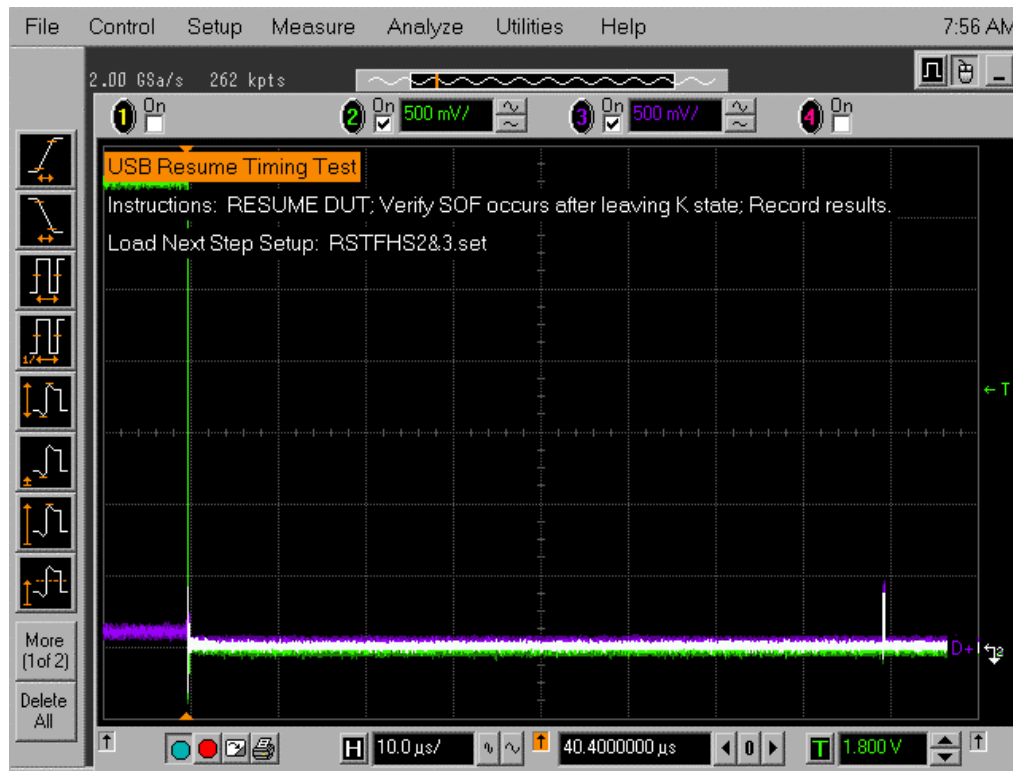

Figure 47. Hub Resumes to High-speed
- b. The captured resume transition should appear as in Figure 47